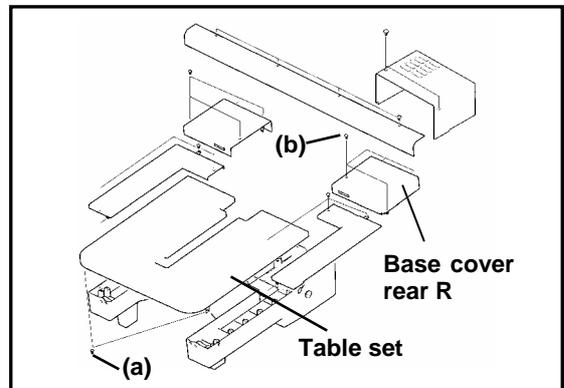

FIG.1
- (2) Remove four set screws (b) and the base cover rear R. (Fig. 1)